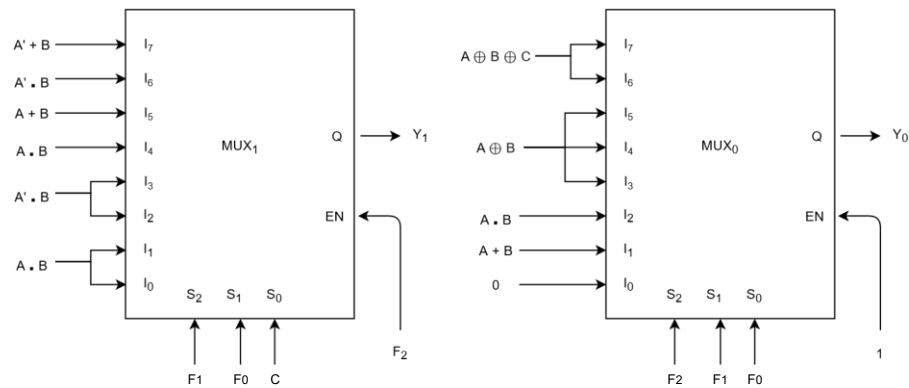

Figure 2: ALU Function Table
1. The final ALU output bits  $Y_0$  and  $Y_1$  will be generated by the two 8-input multiplexers – referred to as  $MUX_0$  and  $MUX_1$  respectively. The required data, select and output enable inputs of  $MUX_0$  and  $MUX_1$  are shown in Fig. 2.
4. Given a circuit with two 8:1 MUX, design the ALU according to the circuit diag. given in fig. 2.